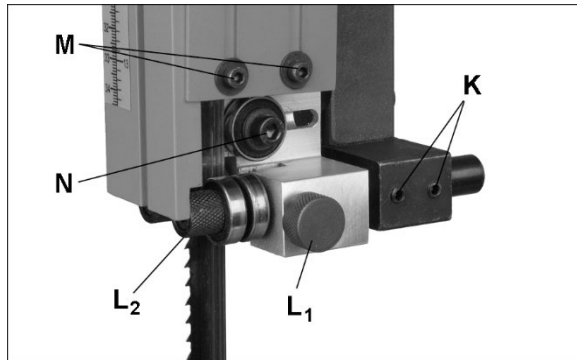
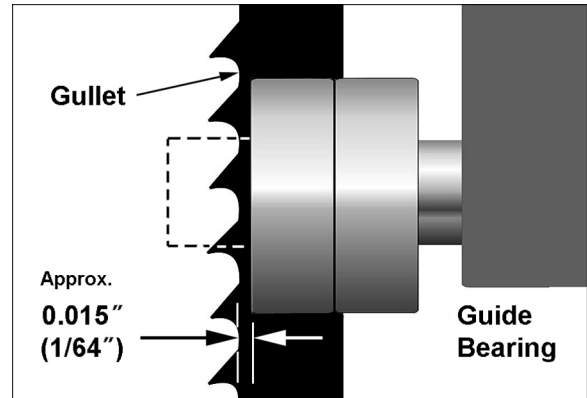

Figure 5-10: blade guide adjustment
Figure 5-11: guide bearing position
Refer to Figures 5-10 and 5-11.
- Loosen two set screws (K, Figure 5-10) with 3mm hex wrench, and slide entire guide bracket until front of guide bearings are about 0.015" (1/64") behind blade gullet (curved area at base of tooth). See Figure 5-11.
- Tighten set screws (K, Figure 5-10).
Refer to Figure 5-10.
- Loosen screws (M, Figure 5-10) with 3mm hex wrench and raise guard plate to expose thrust bearing.
- Loosen screw (N) with 5mm hex wrench, and slide thrust bearing until it almost touches back of blade. (This blade-to-bearing gap can be set in similar fashion as the side guides, with business card or dollar bill.)
Movement summary: Loosen screws on guide bracket (P) to adjust bearing assembly (refer to Figure 5-11). Loosen screws (R) and rotate eccentric guide bearings in relation to blade. The thrust bearing is moved forward and backward by loosening set screw (S) with 4mm hex wrench and rotating knob (T). Retighten set screw (S) to secure position.